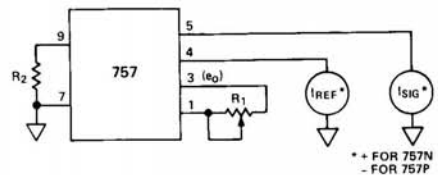

Figure 2. Scale Factor Adjustment
**Scale Factor** — A one volt per decade scale factor is available when pin 1 is tied to 3 and pin 7 is connected to 9. Higher scale factors are possible by using a potentiometer,  $R_1$ , between pins 1 and 3 and a resistor,  $R_2$ , between pins 7 to 9 as shown in Figure 2. The value of the required resistor is  $(13.2k\Omega)(K-1)$  where  $K$  is the desired scale factor. The approximate potentiometer value is also  $(13.2k\Omega)(K-1)$ . The scale factor adjustment procedure is as follows: